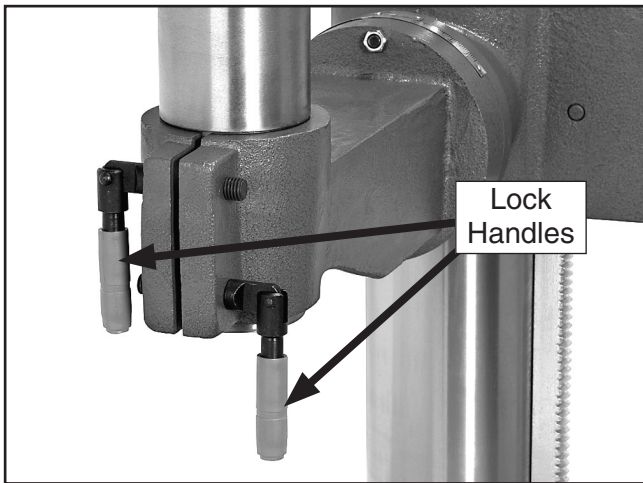

Figure 9. Headstock bracket lock handles.
- Install the lock handles as shown in **Figure 9**.